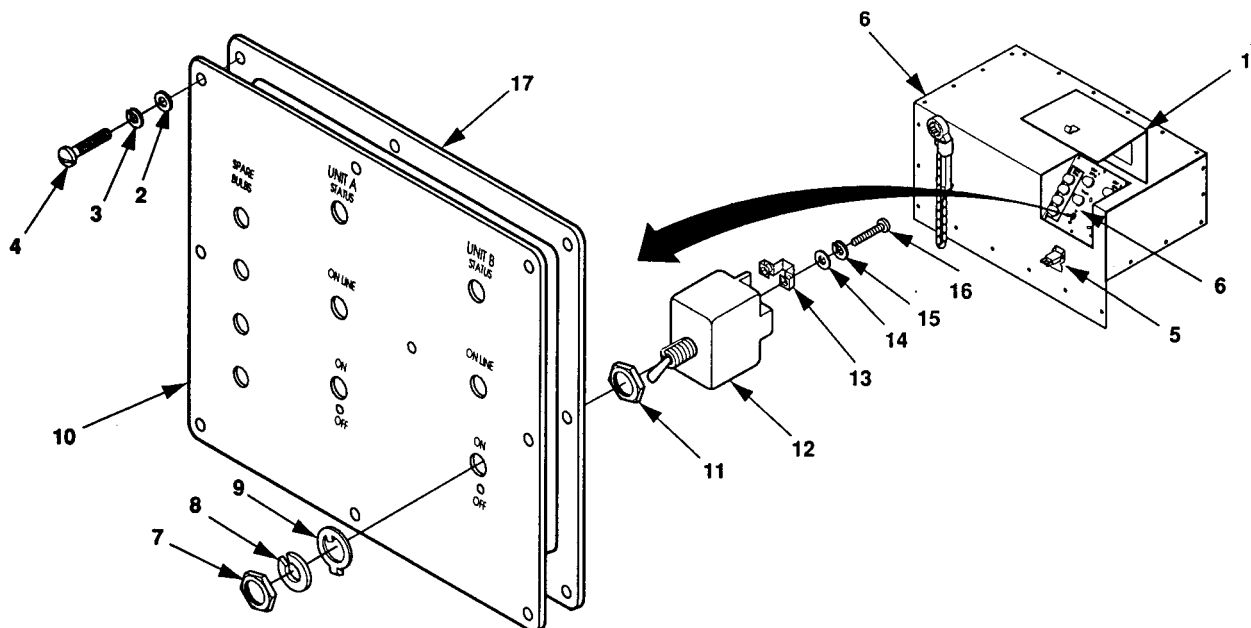

Figure 4-13. Switch Replacement
1. Release clamping catch (5, Figure 4-13) and open the control panel access cover (1).
2. Remove 8 screws (4), flat washers (2) and lock washers (3). Remove control panel assembly (10).
3. Tag wires on terminals 3, 4 and 6 of switch (12).
4. Remove terminal screws (16), lock washers (15), flat washers (14) and conductor bus (13) from switch terminals.
5. Remove nut (7), lock washer (8), locking ring (9) and switch (12).